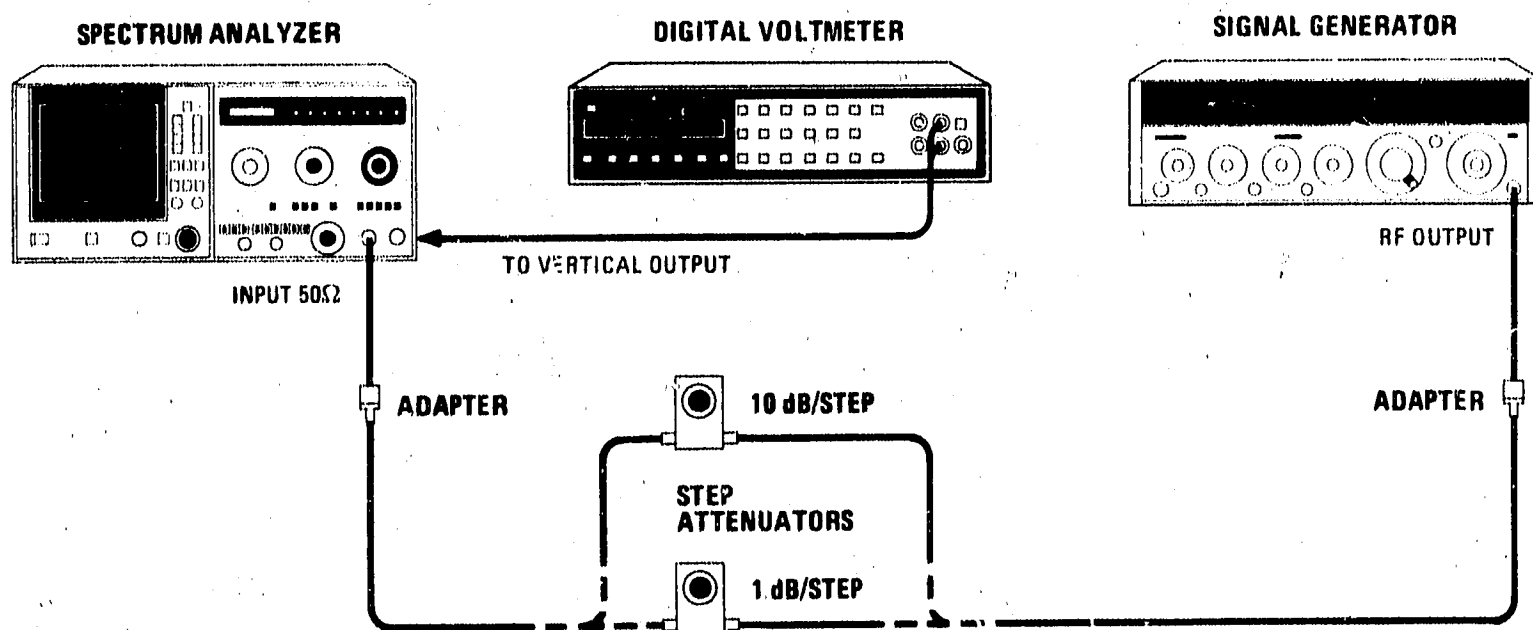

Figure 4-20. Display Accuracy Test Setup
3. Connect equipment as shown in Figure 4-20 using 10 dB/step attenuator. Set step attenuator to 0 dB. Set signal generator for an unmodulated 30 MHz output at approximately 0 dBm.